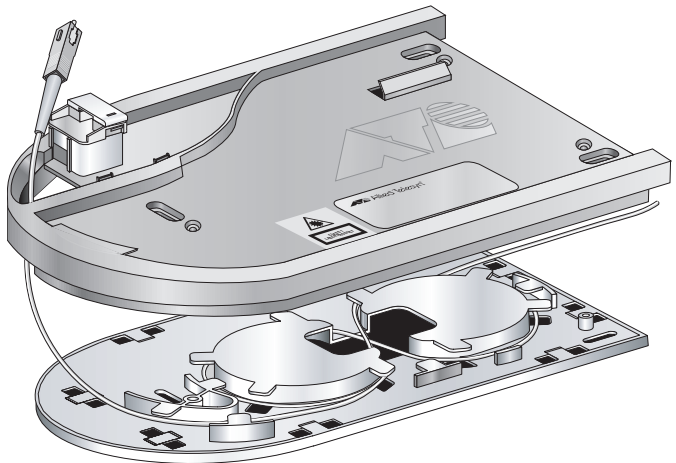

Figure 13. Threading the Cable through the Cover
9. Thread the end of the cable through the triangular slot adjacent to the post in the upper left corner of the cover, as shown in Figure 13.